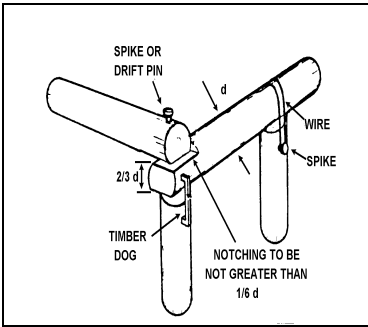
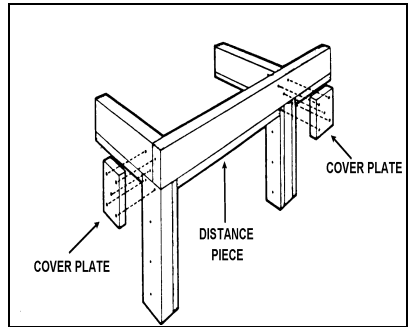

Fig 13-1 Suitable Joints for Framework of Round Timber
Fig 13-2 Suitable Joints in a Framework of Squared Timber
4. Fig 13-1 shows suitable joints for a framework of round timber and Fig 13-2 for a framework of squared timber.